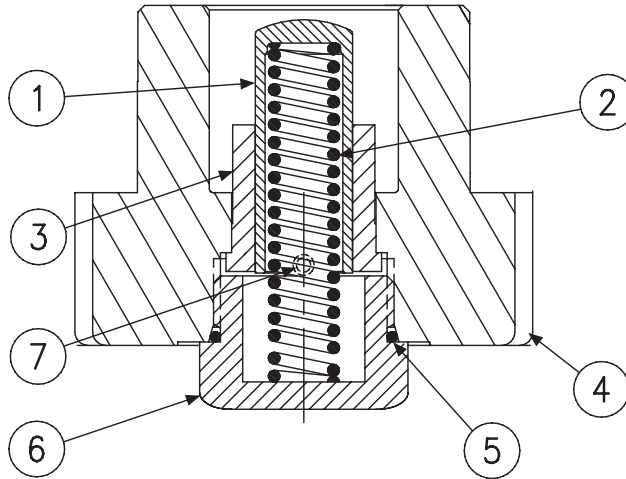

FIGURE 9
PARTS LIST FOR FIGURE 9
1. **See Figure 9.** Set maximum volume stop to full displacement. Remove 4 screws holding cap to pump. Caution! Spring load could cause injury!
3. Remove and examine spring (2) and piston (1). If sleeve (3) is worn, press it out and replace.